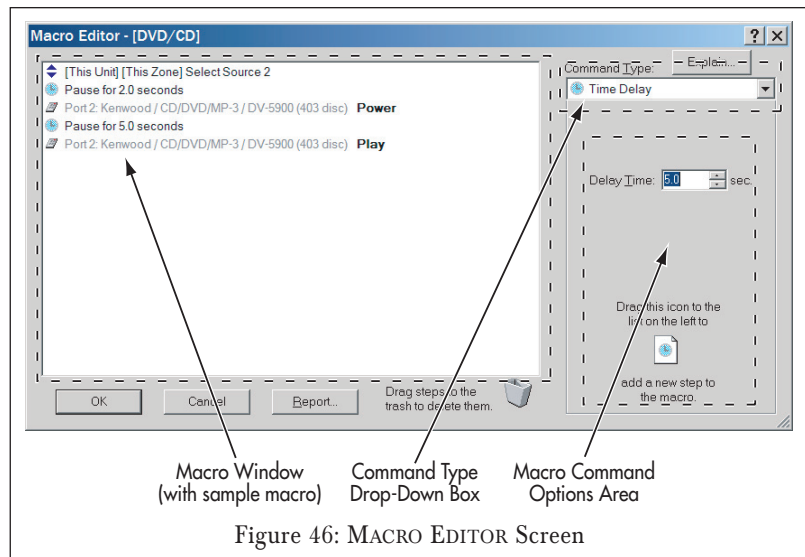

Figure 46: MACRO EDITOR Screen
- If the button has not been programmed with a macro (no MACRO INDICATOR appears on the button) select CREATE MACRO. The MACRO EDITOR screen will appear. See *Figure 46*, on page 36.
The Macro Editor Screen (see Figure 46)